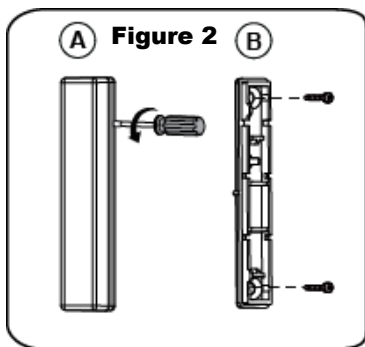

Figure 3
1. Detach back of transmitter from the back bracket (Fig. 1-1). At mounting location note the alignment marks for both components (Fig. 3), and then install accordingly using 2 mounting screws and back tamper screw (Fig 1-4).
- The mark on the magnet's case must be aligned with the mark on the transmitter's case (Fig. 3).
- For installations on wood or alloy, the maximum distance for normal operation is 10 mm, while for metal ferromagnetic materials (such as iron) it is 5 mm (Fig. 3).